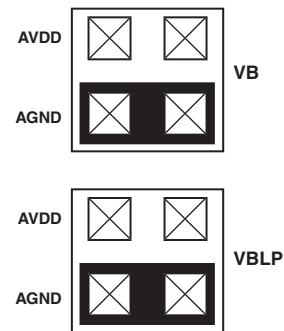

Figure 2. TIA Bias Voltage Header Settings
The header labeled VB in Section (5) sets the bias voltage for the EDFA input photodiode. This voltage connects to Pin 2 (VB) on the ADN8820, the noninverting input of the input photodiode TIA. Header VBLP sets the bias voltage for the laser power photodiode TIA. Connecting a 2 mm jumper across the top row forces the bias voltage to VDD, connecting the bottom row sets it to 0 V as shown in Figure 2.